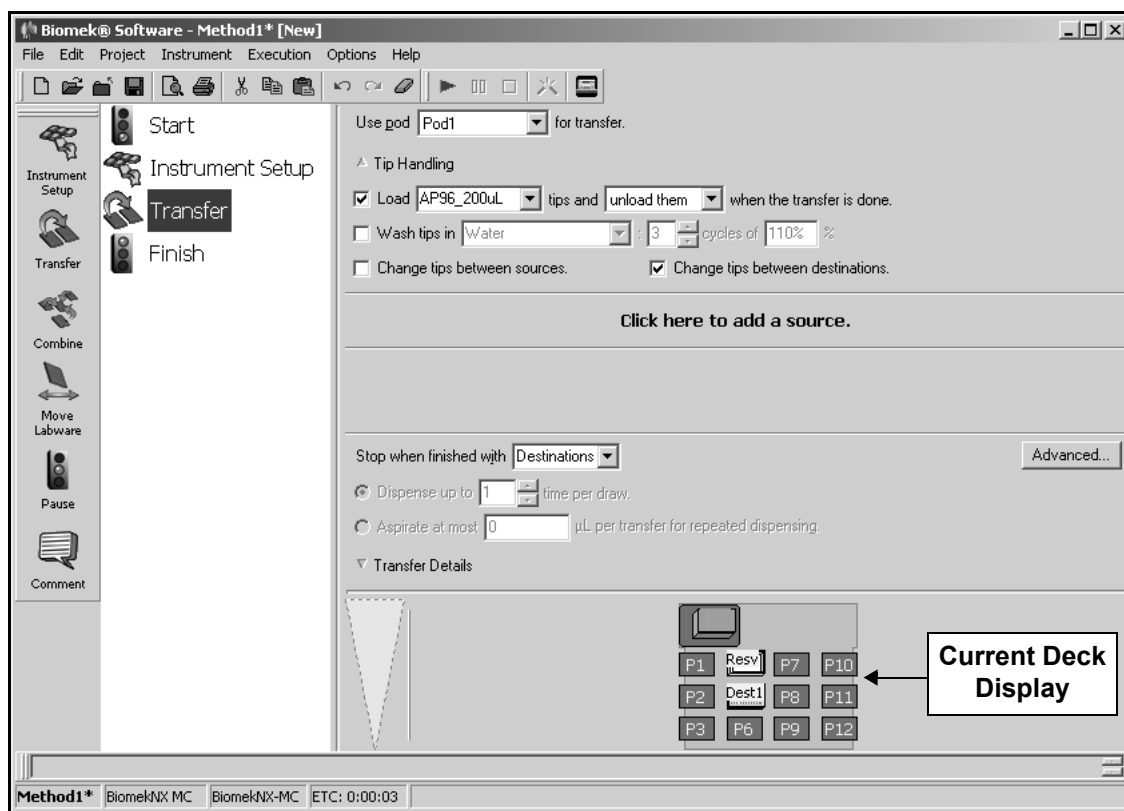

Figure 2-7. Transfer step inserted into the Method View
Drag and drop a **Transfer** step from the Step Palette into the Method View just below the Instrument Setup step. Notice that the Current Deck Display shows the current position of all labware on the deck (Figure 2-7).
1. In Tip Handling, make sure **Load** is checked (Figure 2-7).